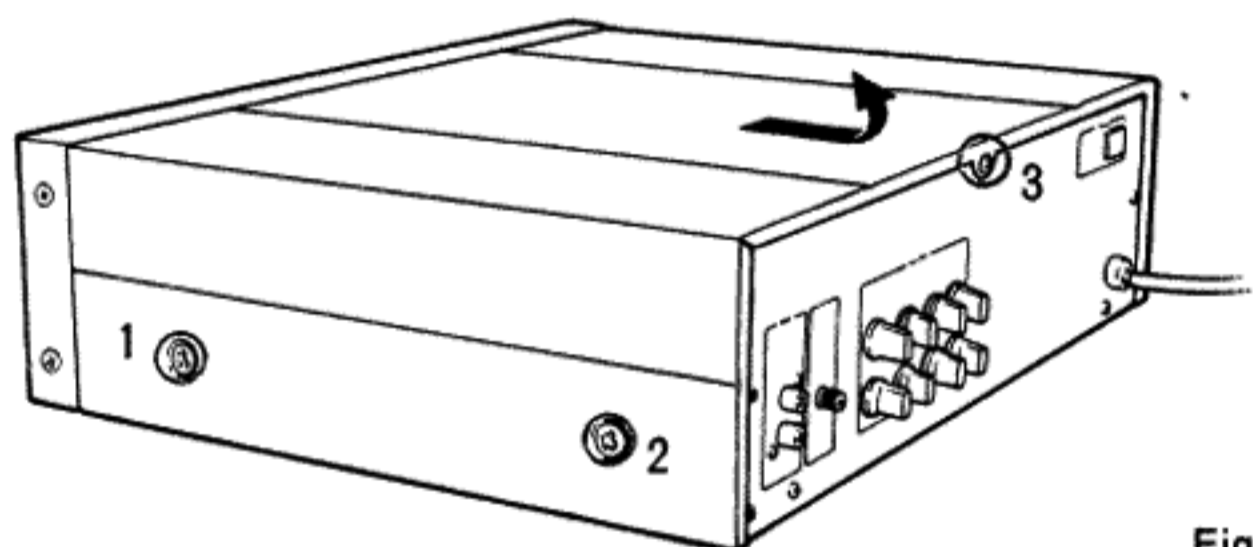

Fig. 1
Remove screws ① and ② from the both left and right sides and screw ③ in Fig. 1. Slide cover away from the front panel, remove the top cover by lifting it.